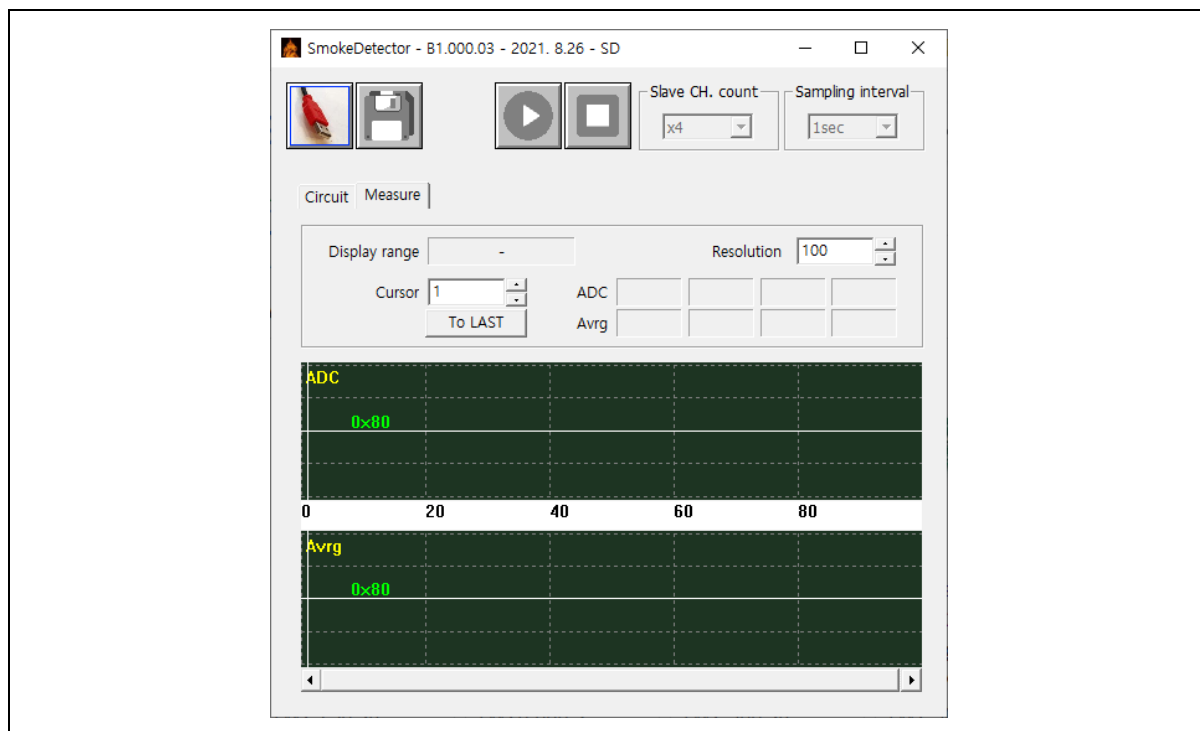

Figure 4. Program Screen
5. Start the Smoke Detector GUI Program on the PC. When the Program starts, users can see the dialog box as shown in Figure 4.